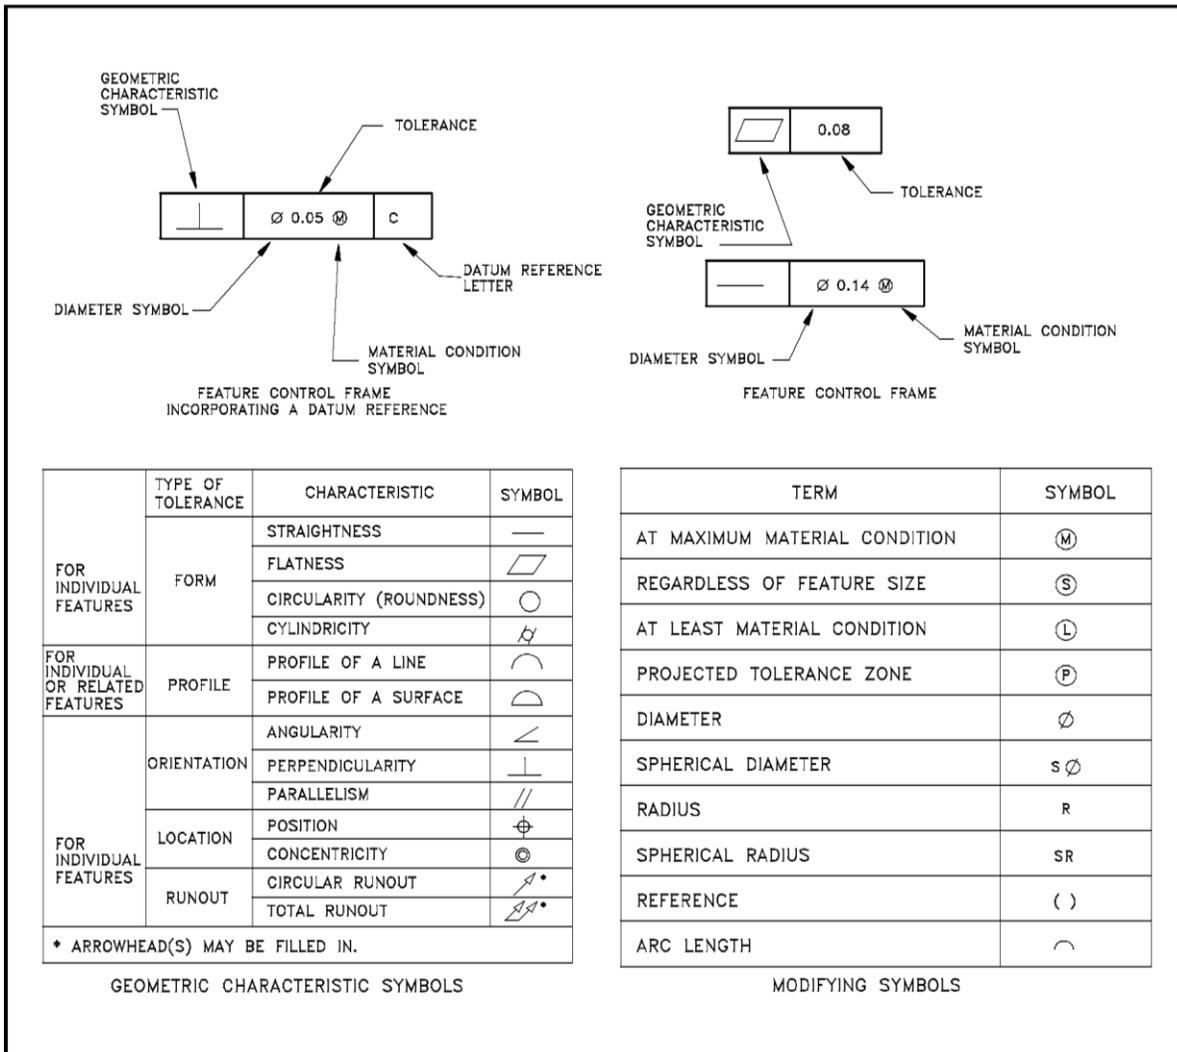
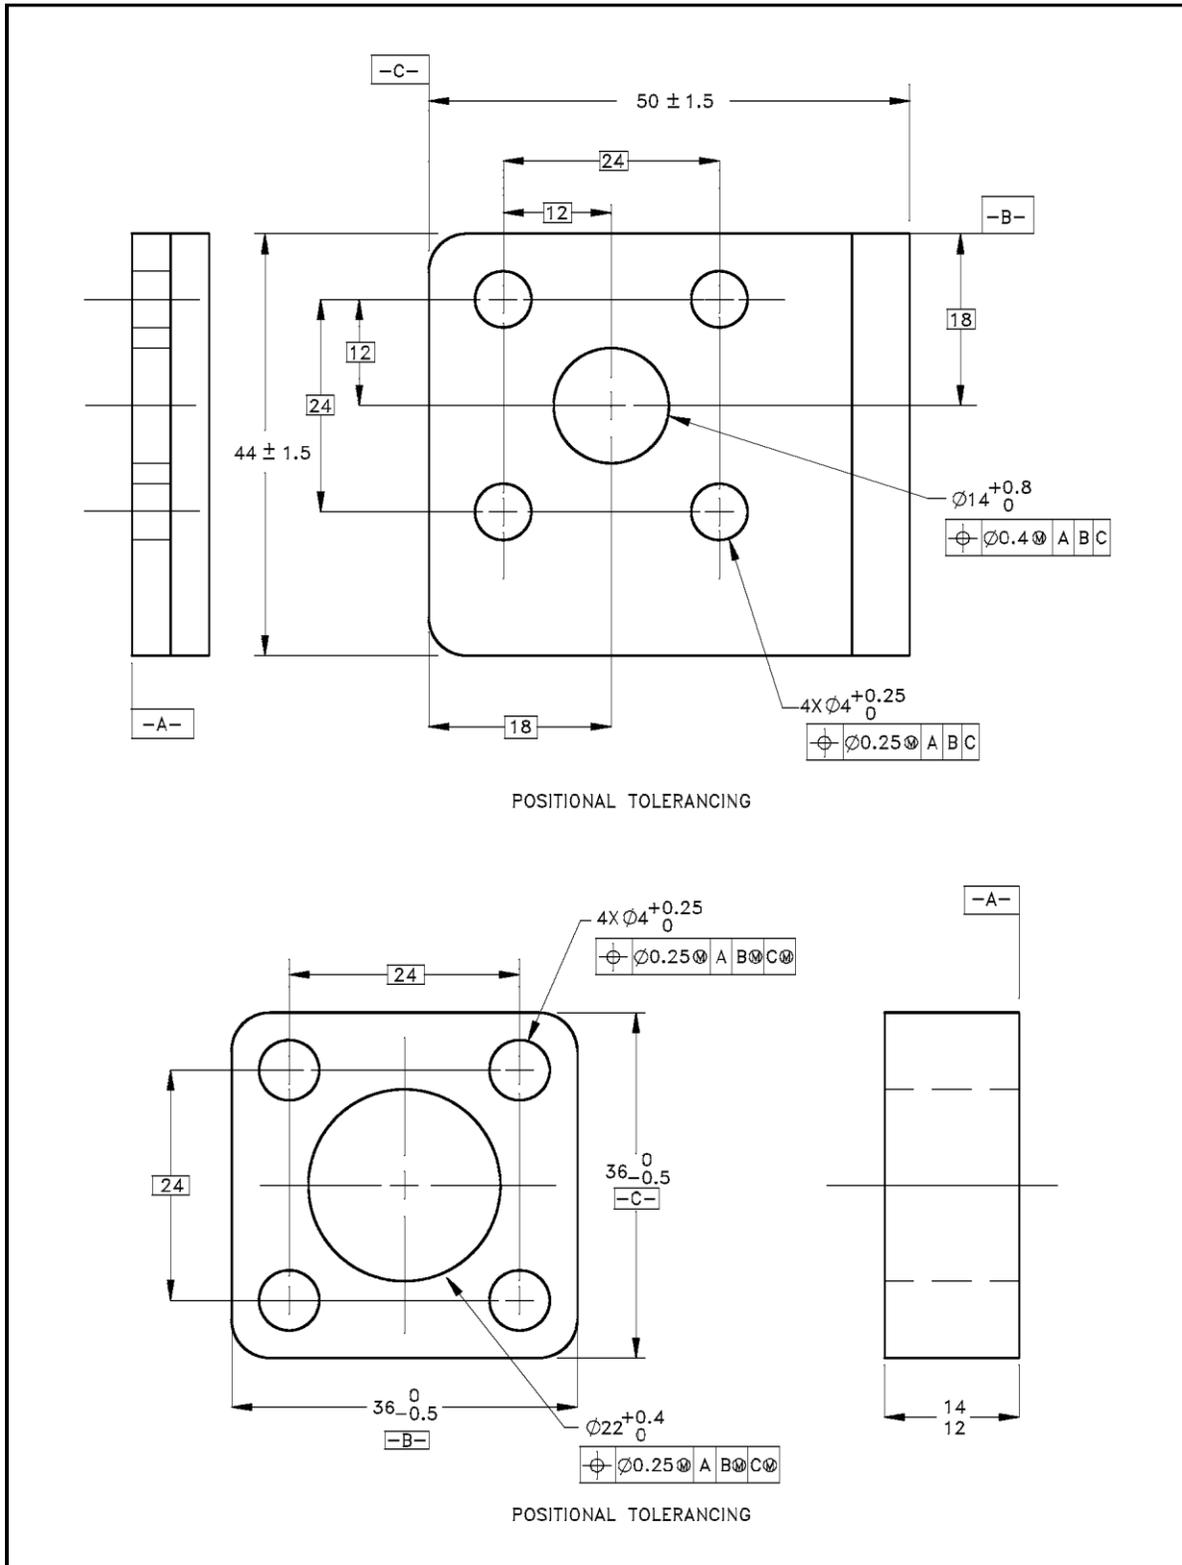

Figure 6 Symboly Used in Tolerancing Drawings
Figure 7 Examples of Tolerance Symboly
The last method is to state the tolerance for a specified dimension with the measurement. This method is usually used in conjunction with one of the other two tolerancing methods. This type of notation is commonly used for a dimension that requires a higher level of accuracy than the remainder of the drawing. Figure 6 provides several examples of how this type of tolerancing notation can appear on a drawing.
Tolerances are applied to more than just linear dimensions, such as 1 ± 0.1 inches. They can apply to any dimension, including the radius, the degree of out-of-round, the allowable out-of-square, the surface condition, or any other parameter that effects the shape and size of the object. These types of tolerances are called geometric tolerances. Geometric tolerances state the maximum allowable variation of a form or its position from the perfect geometry implied on the drawing. The term geometry refers to various forms, such as a plane, a cylinder, a cone, a square, or a hexagon. Theoretically these are perfect forms, but because it is impossible to produce perfect forms, it may be necessary to specify the amount of variation permitted. These tolerances specify either the diameter or the width of a tolerance zone within which a surface or the axis of a cylinder or a hole must be if the part is to meet the required accuracy for proper function and fit. The methods of indicating geometric tolerances by means of geometric characteristic symbols are shown in Figure 6. Examples of tolerance symbology are shown in Figure 7.
1. Using Figure 6, the straight line in the geometric characteristic box indicates "straightness." This implies that the surface must be straight to within 0.02 inches.
1. Using Figure 6, the circle with two parallel bars in the geometric characteristic box indicates "Cylindricity," or how close to being a perfect cylinder it must be (in this case 0.25 inches).